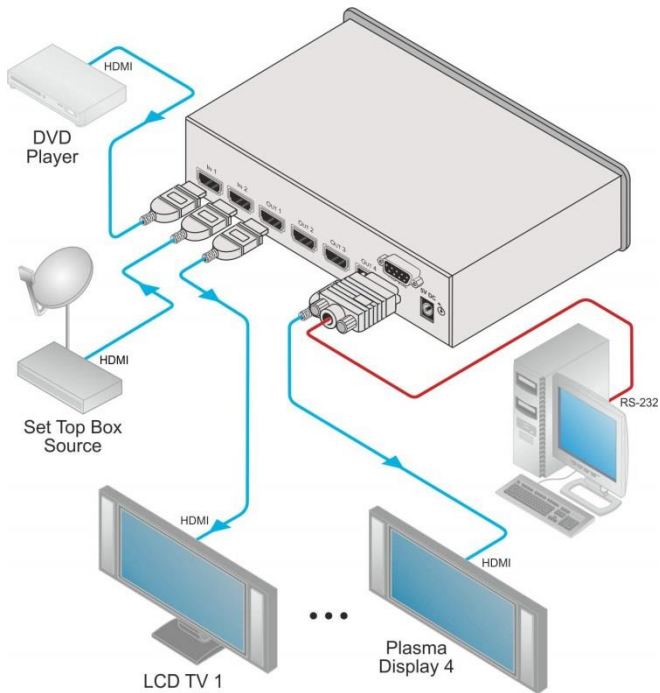

Figure 2: Connecting the VM-24HC 2 Input 1:4 HDMI Distributor
To connect the **VM-24HC** as illustrated in the example in Figure 2:
4. Connect the power adapter to the device and to the mains electricity (not shown in Figure 2).